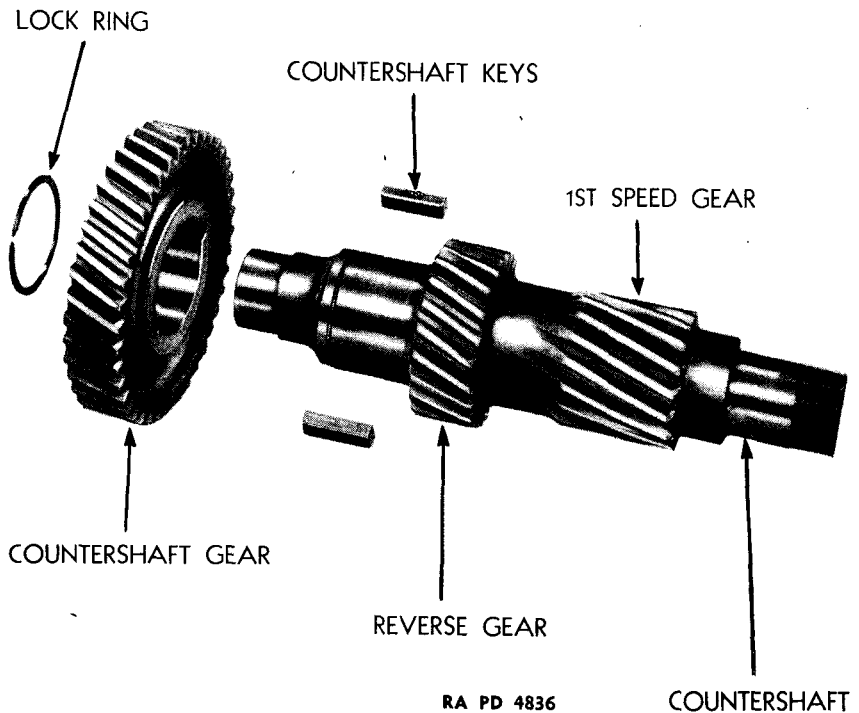

FIGURE 46 — COUNTERSHAFT ASSEMBLY
(38) Disassemble countershaft assembly (*fig. 46*). Remove snap ring holding large gear, install puller on large gear and unthreaded end of shaft and pull gear off shaft. Remove keys. Countershaft is now bare as first speed and reverse gears are made integral with it.